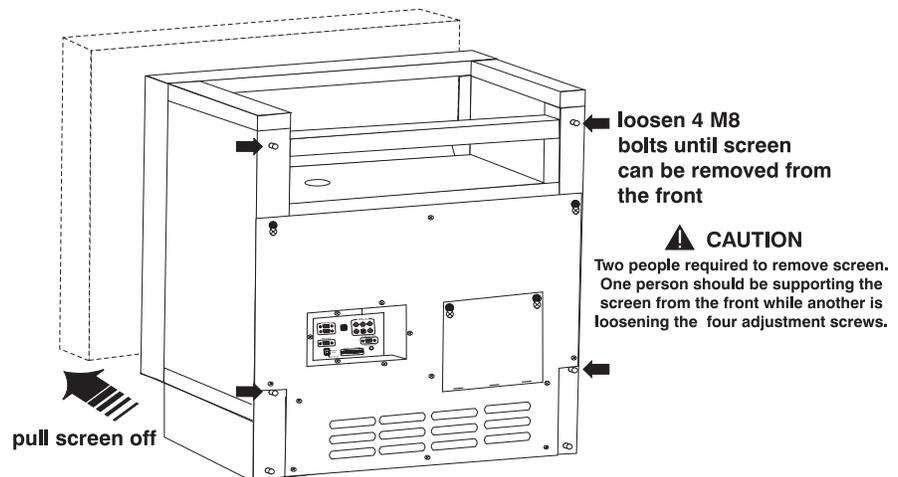

Figure 2.4. Remove screen
- 2) Unscrew the four M8 adjustment screws securing the screen to the cube frame, located at the rear of the cube. See Figure 2.4.